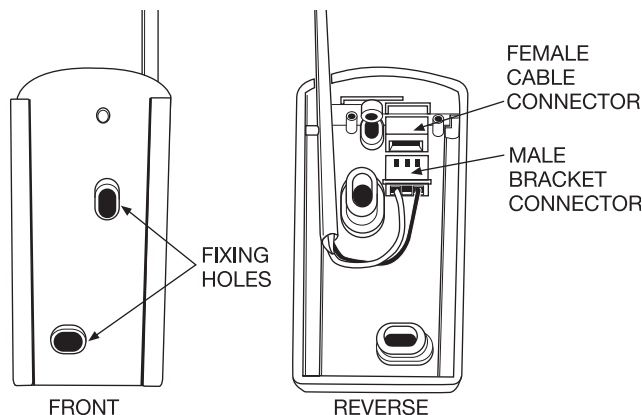

Fig. 36 — Pendant Wall Mounting Bracket
1. Position the wall bracket and mark through the 2 fixing holes (see Fig. 36).
2. Connect the 3-way female cable connector with the male bracket connector (see Fig. 36). The cable can be routed from either the top or the left hand side of the wall bracket.